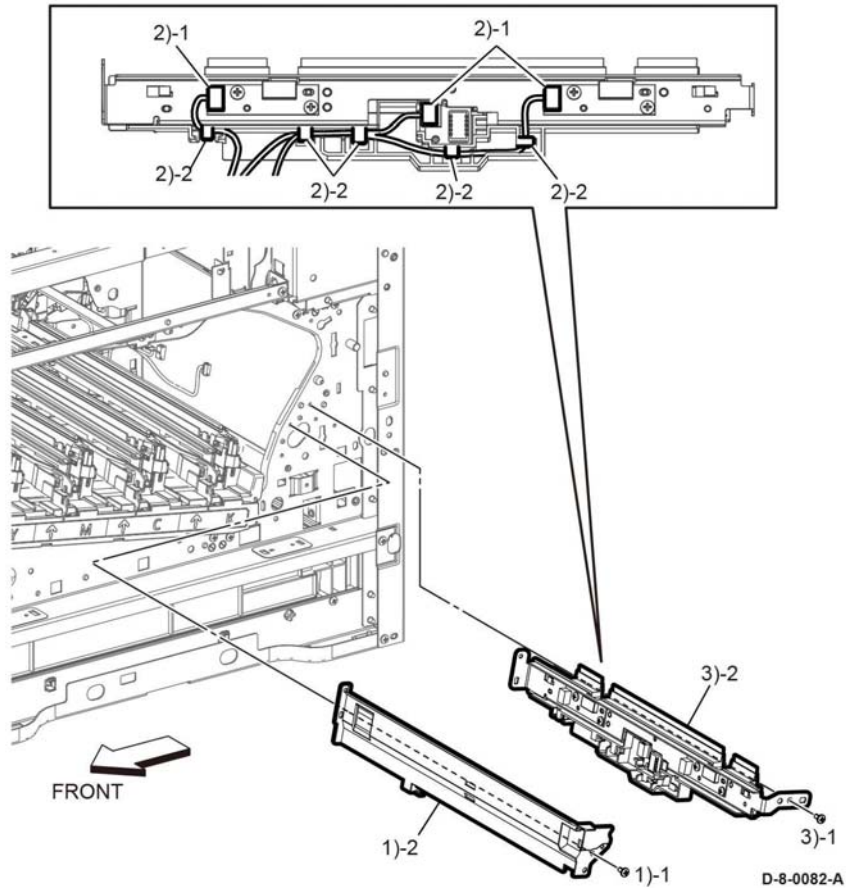

Figure 1 Remove the CTD Sensor Assembly
2. Refer to Figure 1 to remove the one screw (silver, M3x6mm) attaching the Sensor Cover and remove the cover.